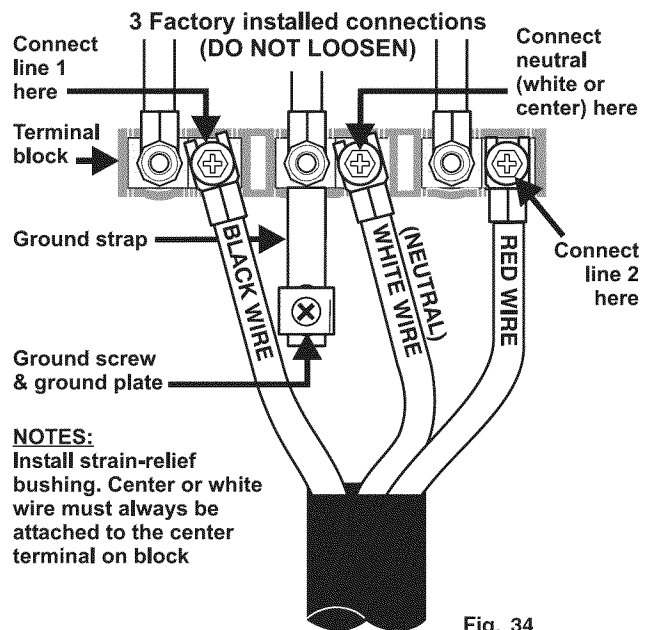

Fig. 34
### OR **B** 3-Wire connection instructions (for existing installations ONLY) See Fig. 34)
2. Insert the end connectors for Line 1, Line 2 and Neutral and tighten securely to the terminal block (See Fig. 34).
A ground strap is installed on this range which connects the center terminal of the terminal block (neutral) to the range chassis. The ground strap is connected to the range by the center, lowest screw (See Fig. 34). The ground strap must not be removed unless national or local codes do not permit use of ground strap.